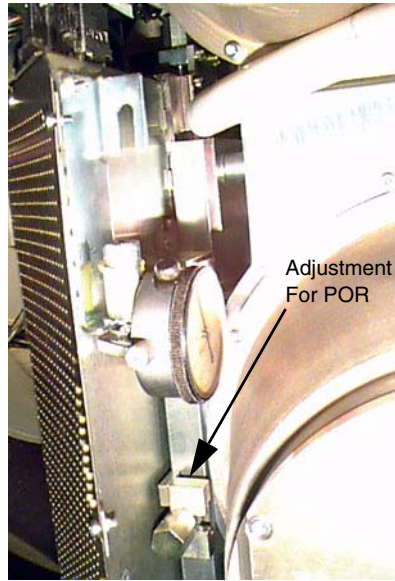

Figure 11-12 Dial Indicator Attached to Collimator/Tube Assembly
- If the tube is out of specification, perform steps 1 and 2 (page 263), and move the tube. Refer to Figure 11-12 for more details.
Mount the dial indicator onto the collimator/tube assembly as shown Figure 11-12. *Make sure you zero the dial indicator when it's securely in place.*